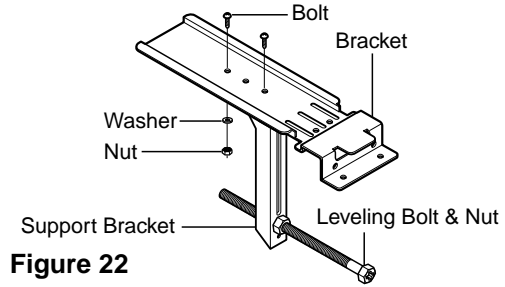

Figure 22
1. Loosely attach the support bracket to the bottom of window bracket using bolts, washers, and nuts. Attach the leveling bolt and nut. (See Figure 22)